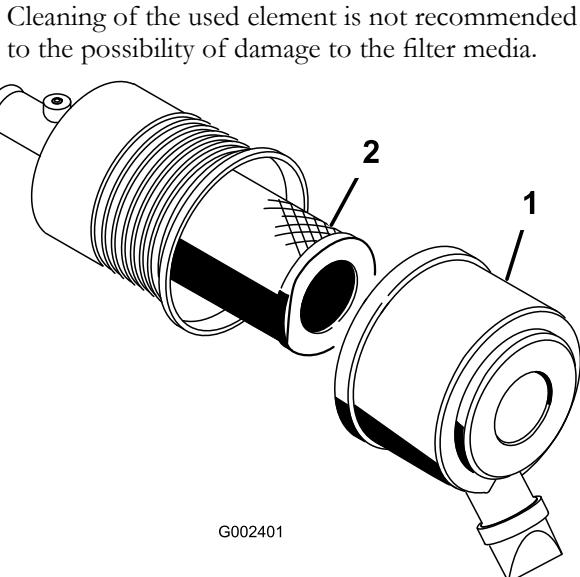

Figure 51
- Release the latches securing the air cleaner cover to the air cleaner body (Figure 51).
- Remove the cover from the air cleaner body (Figure 51).
- Remove and replace the filter (Figure 51).